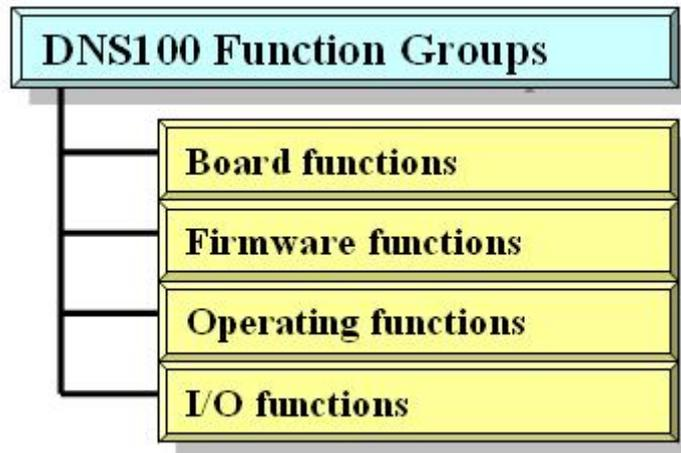

Figure 5.1.1 Four Function Groups
All the functions of the PISO-DNS100(U) can be separated into four groups. The idea is shown Figure 5.1.1. There is more detail description in chapter 5.3.